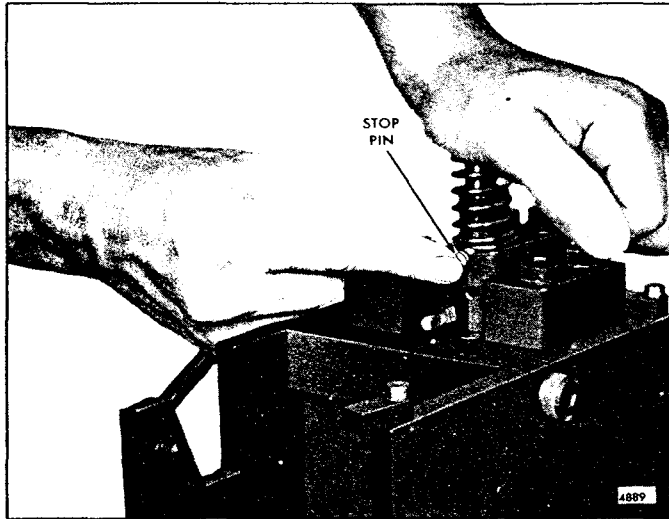

Fig. 32 – Installing Injector Follower Stop Pin
24. Refer to (Fig. 32) and place the stop pin on the injector body so that the follower spring rests on the narrow flange of the stop pin.